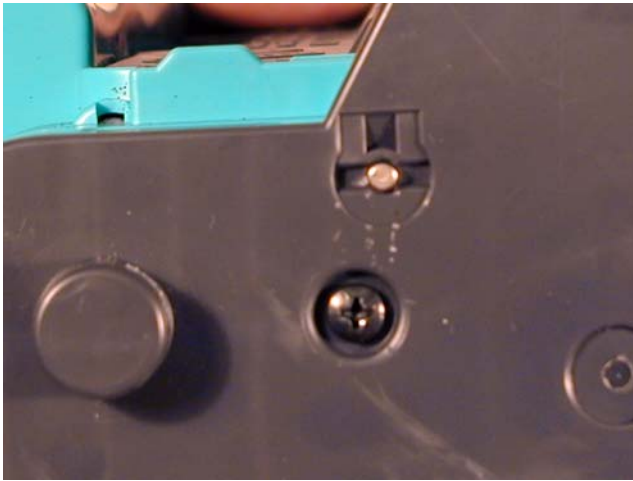

Figure 65
52) Install the 2 hinge pins. See **Figure 65**